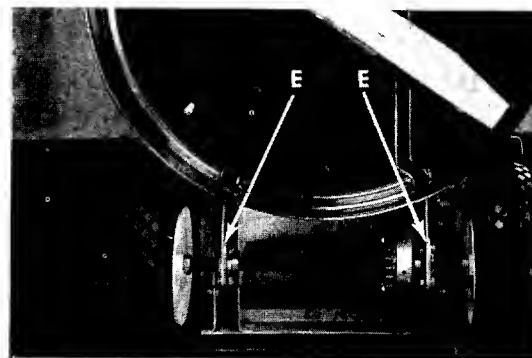

FIGURE 15. LUBRICATION
- d. **Rear Axle Bearings.** Lubricate the rear axle bearings after every 25 hours of operation with SAE 30 oil. Wipe up excessive oil with a rag. See figure 15.
- e. **Chain.** Remove the chain once each season, clean in kerosene, dry and lubricate with a rag saturated in SAE 30 oil. See figure 15.